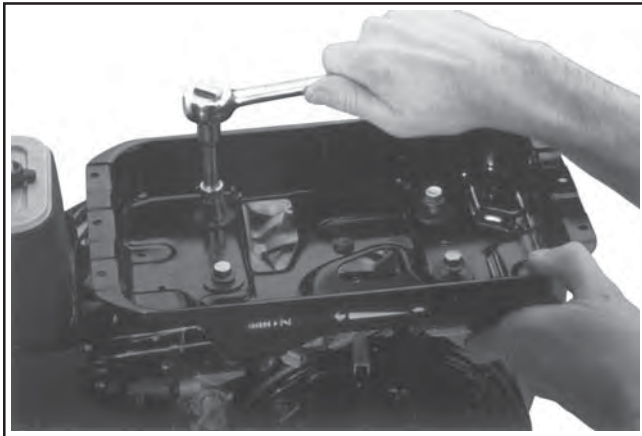

Figure 11-112. CS8.5 (spec. 95xxxx) Installing Fuel Tank Support.
1. Install the fuel tank support to top of crankcase. Align the four mounting holes with the crankcase locations. Install and finger tighten the four M8 hex flange screws, with flat washers under each head. Install the single M6 hex flange screw in the hole, as shown, and thread it into the throttle control bracket. Torque the four M8 screws to **27-31 N·m (238-274 in. lb.)** and the single M6 screw to **8-12 N·m (71-106 in. lb.)**. See Figure 11-112.